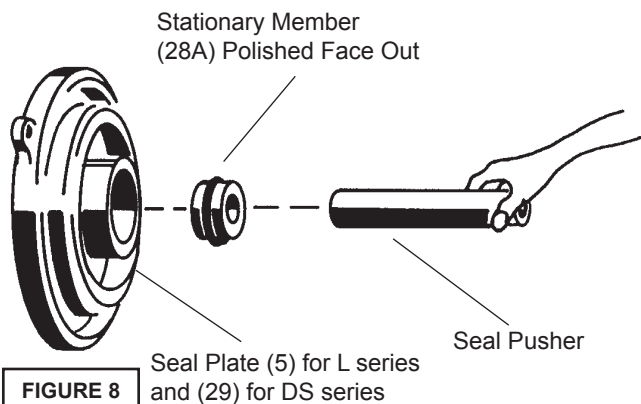

FIGURE 8
until lapped faces of (28a) and (28b) are together (see Figure 8). It is extremely important to keep seal faces clean during assembly. Dirt particles lodged between these faces will cause the seal to leak. Place spring (28c) over shaft and in place on rotating member (28b), making sure it is seated on retainer and not cocked or resting on bellows tail. Slide retaining ring (28d) over shaft and let rest on spring (28c). Replace snap ring (32) in groove of shaft. Set square-ring (27) in groove on outer seal plate (29) and place outer seal plate (29) onto inner seal plate (5). Replace socket head cap screws (64) and torque to 60 in-lbs.